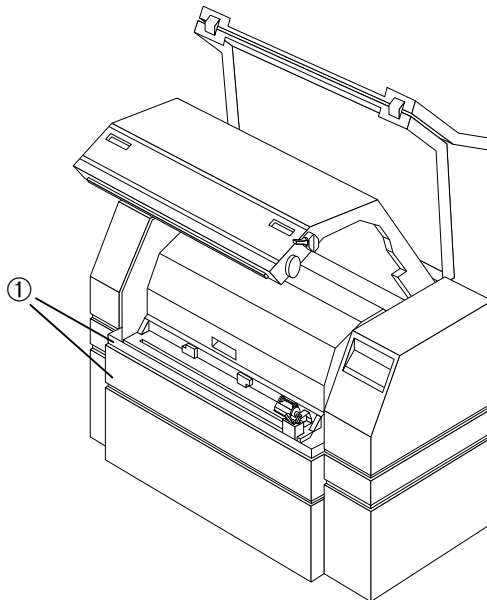

Figure 5.10 ①—The Avantra 36/44 imagesetter top and middle access panels.
2. Lift the top and middle access panels up and out from the cutter area. See Figure 5.10.